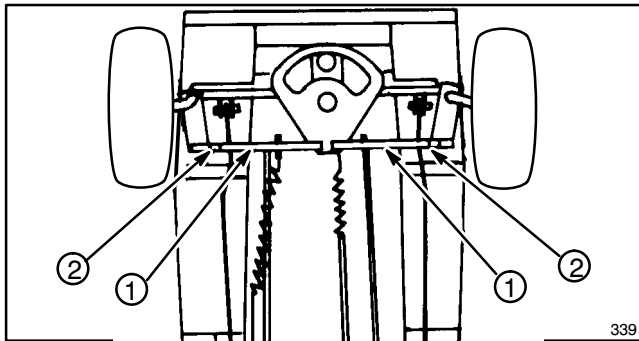

Figure 26
1. To align front wheels, loosen jam nut and turn tie rod end (there is only one adjustable tie rod) until center line distance across front of wheels (d') is .06 inch (1.5 mm) to .25 inch (6.3 mm) less than center line distance across rear of front wheels (d'') (Fig. 26 & 27).